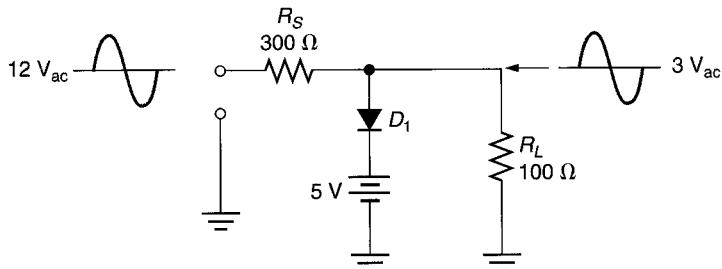

FIGURE 4.50
42. Explain the output waveform shown in Figure 4.50. (Note: There are no faulty components in the circuit.)